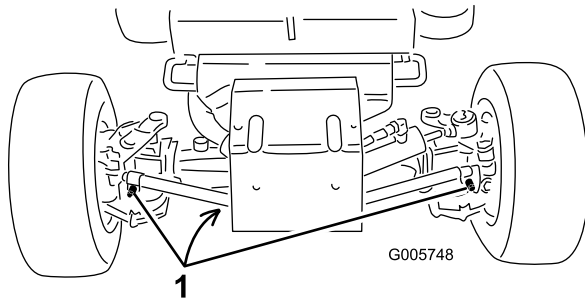

Figure 54
2. Clean area around the drain plugs (Figure 54).